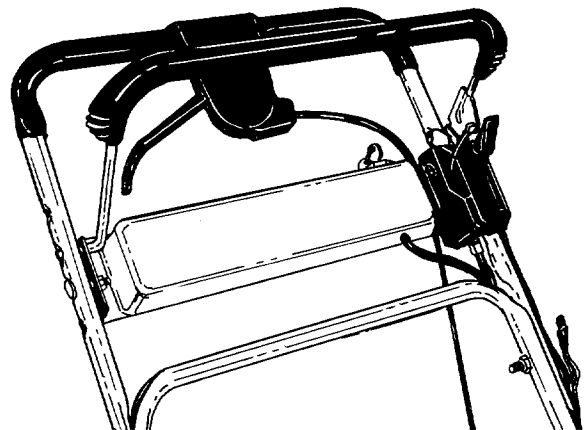

FIGURE 23.
**Blade Control**—Lubricate the pivot points on the blade control handle and the brake cable at least once a season with light oil. See figure 23. The control must operate freely in both directions.